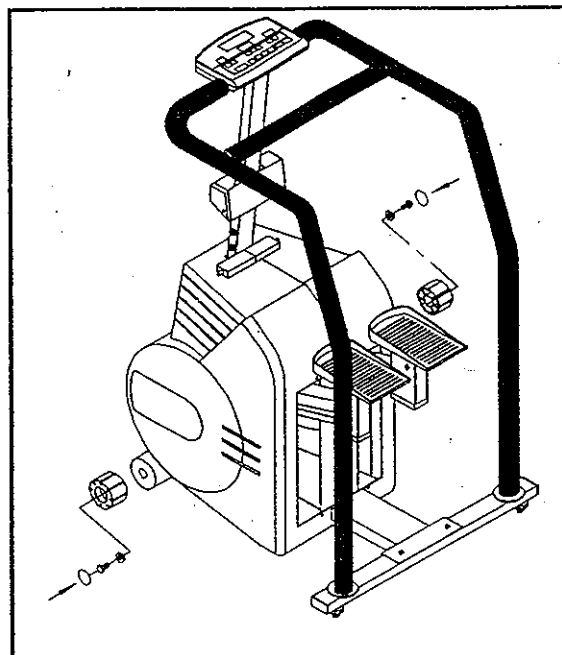

Fig. 22
8. Replace both transport wheels, tighten with screw and washer, then cover with labels (see Fig. 22).